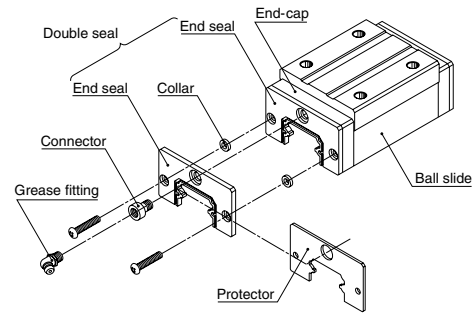

Fig. 1
- › When attaching a grease fitting to the end-cap after the double seal or protector is equipped, a connector, shown in Fig. 1, is required. Please specify the connector set when ordering.